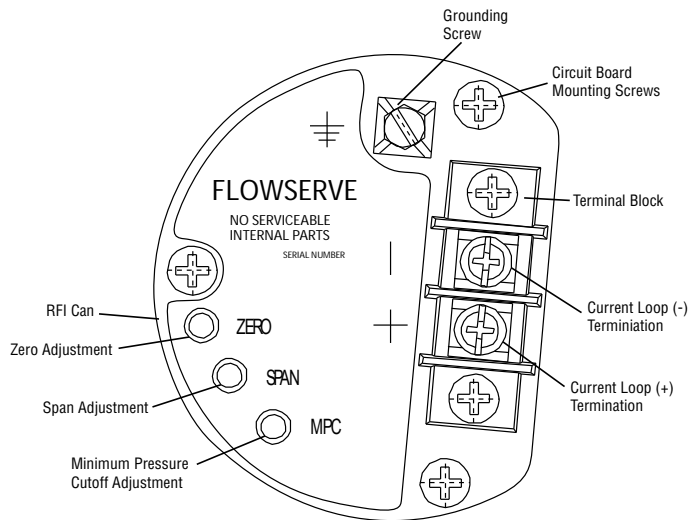

Figure 7: KM82 Circuit Board Module with Housing Cover Removed
2. Remove I/P module housing cover. (See Figure 7.)
move to the failure position. This feature is generally used when the service requires a tight shut off or to prevent throttling near the valve seat. To adjust this feature, refer to Figure 7 and perform the following: